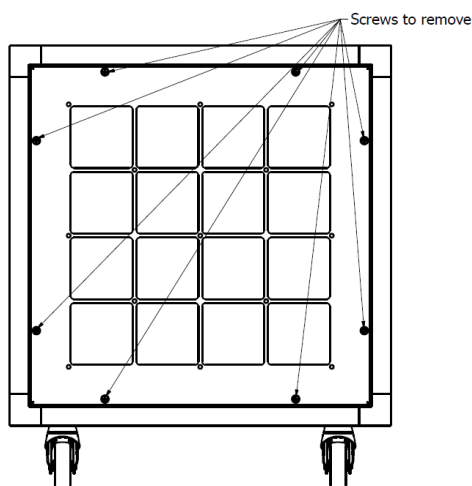

Fig. 7. Screws to be removed
- 1) Remove the screws shown in fig. 7.